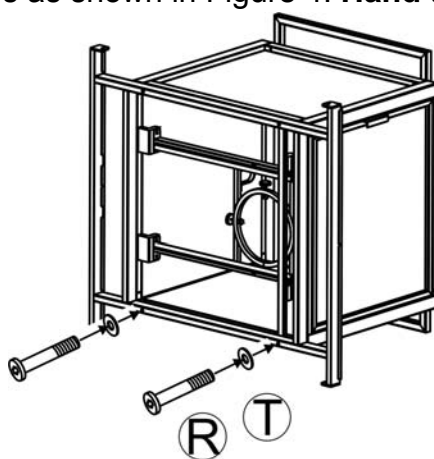

Figure 4
3. Attach the bottom connector bracket to the firepit base frame by using four 1/4"x60mm bolts and Ø6.5 X 1.0mm washers as shown in Figure 4. **Hand tighten only.**